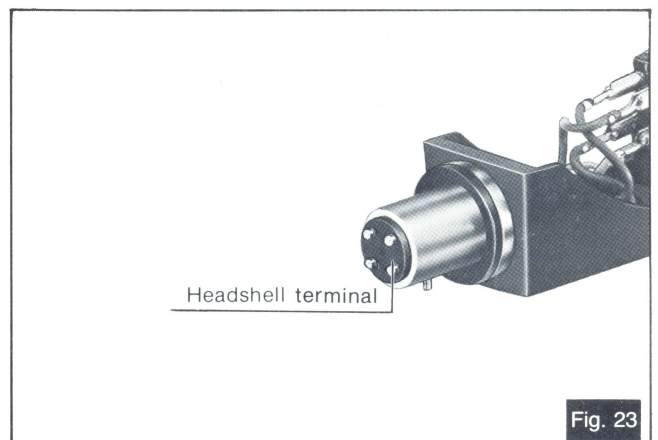

Fig. 23
- 6 Wipe the headshell terminals from time to time. (See Fig. 23.)